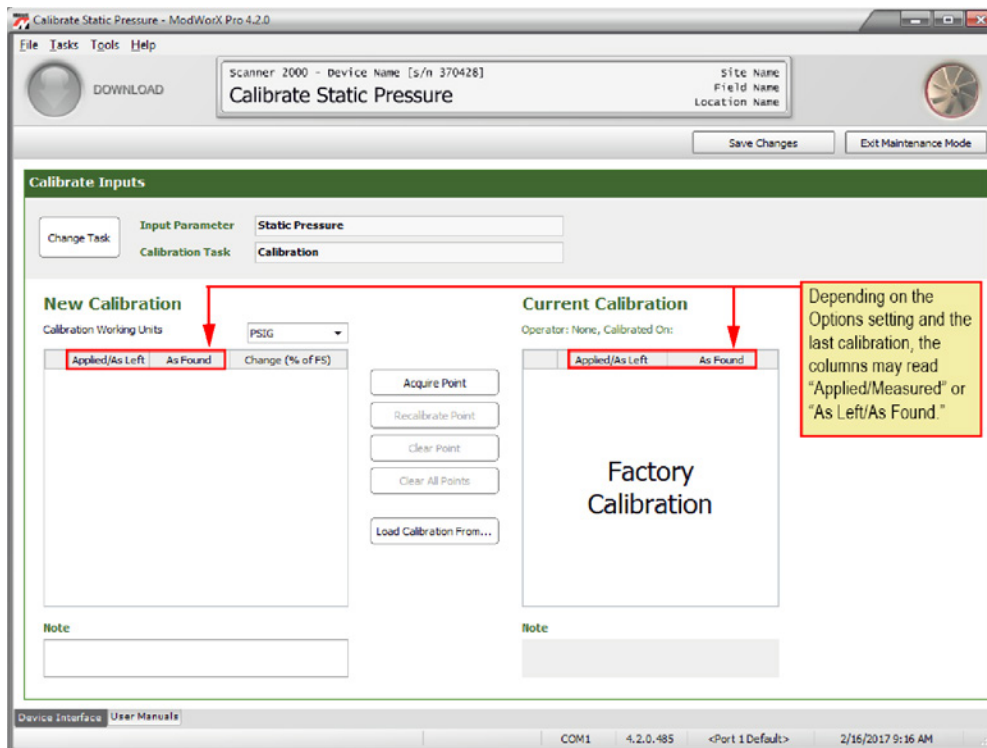

Figure 6.10
1. Observe the calibration settings at the bottom of the screen (Figure 6.10). To calibrate the sensor, click on the blue **Calibrate** hyperlink in the Sensor Calibration section and follow the screen prompts.
- a. Observe the verification settings at the bottom of the screen (Figure 6.10). To verify the sensor's calibration, click on the blue **Verify** hyperlink and follow the screen prompts.